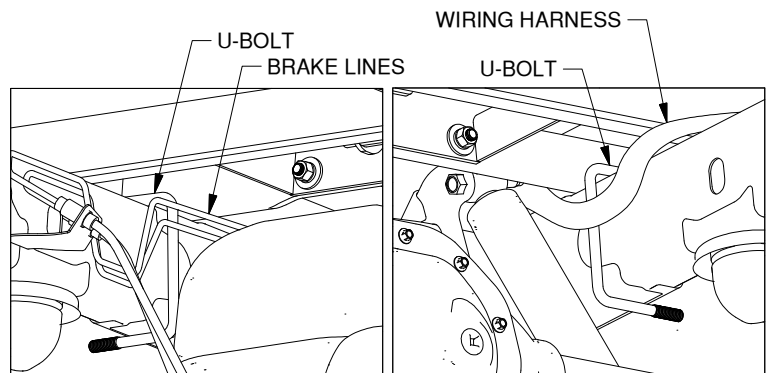

Figure C1:
1. **Position the U-bolts.** Each side plate will utilize a U-bolt for attachment to the frame. On the driver side, the U-bolt will need to be passed under the brake lines on the side of the frame, see Figure C1. On the passenger side the U-bolt will need to be positioned under the wiring that runs over the top of the frame, see Figure C2. Move the U-bolts so that they hang roughly 8 inches in front of the axle center line.